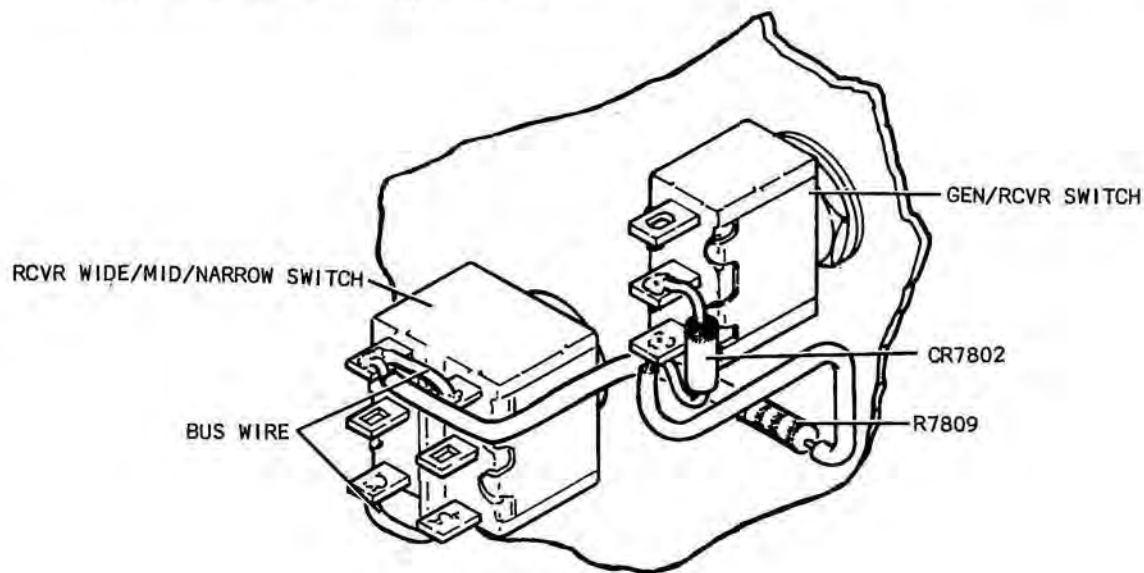

Figure 6-16 GEN/RCVR and RCVR WIDE/MID/NARROW Switch Installation
0. GEN/RCVR Switch (23) by attaching:
1. Lock washer (24) and switch (23) at rear of panel (72); flat washer (50) and hex nut (51) at front of panel (72).
2. Ensure that switch is installed as shown in Figure 6-16 before soldering wires.